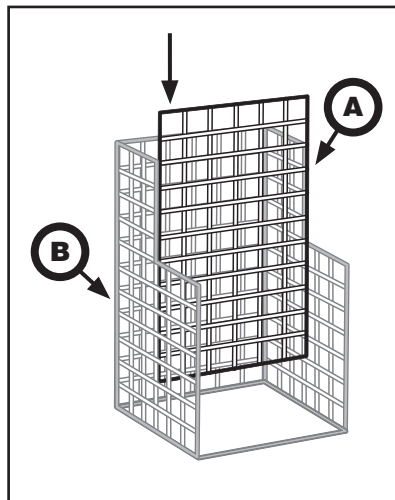

Figure 2
- 5** Attach second large grid to side grids as in *Figure 2*.